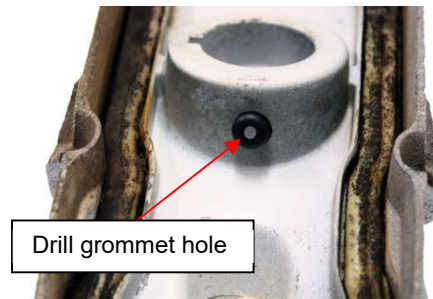

Figure 2
2. OPTIONAL: If sequential patterns are desired, drill a 3/16" diameter hole in the outer light cell's bulb socket relief and deburr hole. (See Figure 2) Then install provided rubber grommet into the drilled hole. One method to simplify installation is to pinch grommet, insert protruding edge into the hole, then use a small flat blade screwdriver to push/work the remaining edge through the hole.